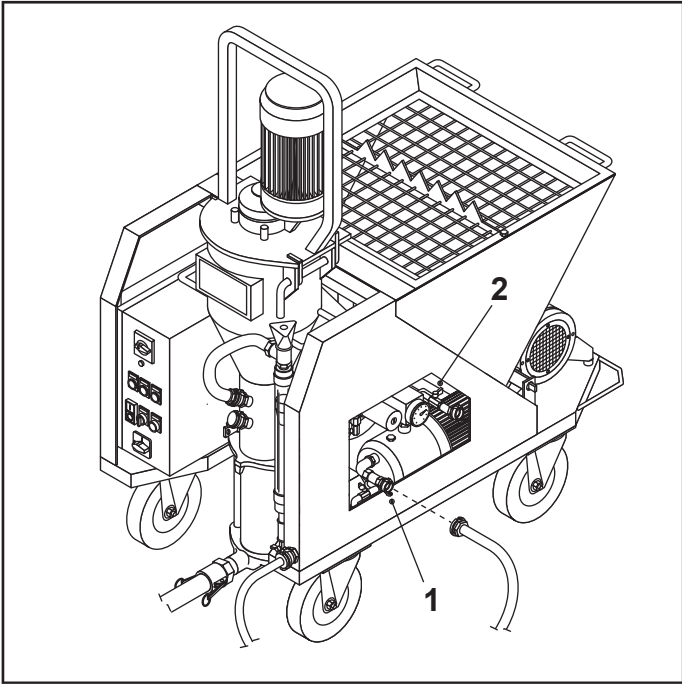

FIG.11
- Connect the water supply hose to the quick coupling of the water pump (FIG.11-REF.1).
To check that the pump is primed, water must come out when the cock is opened (FIG.11-REF.2).
The water entering the water pump must be clear and free of impurities. If the water network does not provide the required water flow, use a 200 litre container with compensation function. The container must have a cock with float, it must be in a raised position with respect to the stationing plane of the machine and the water draught must be at least 50 cm above the connection (FIG.11-REF.1).